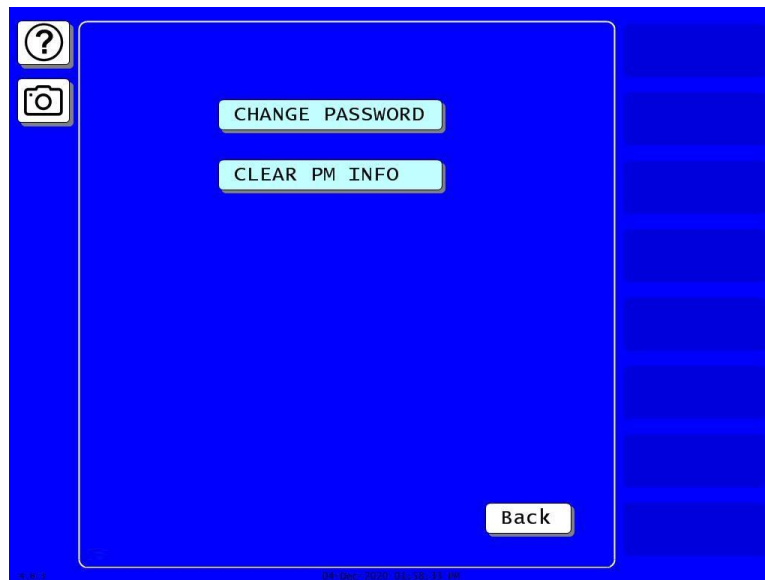

Figure A- 5. Initialize PM Screen
2. In the screen that displays, Figure A- 5, press CHANGE PASSWORD. A password entry keypad appears, Figure A- 7.